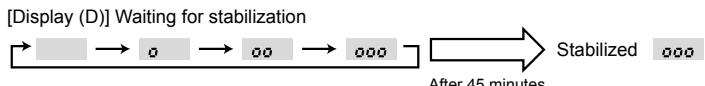

Fig. 8-3
(3) Press **FILTER** (\leftrightarrow) button to confirm. (Fig. 8-3)